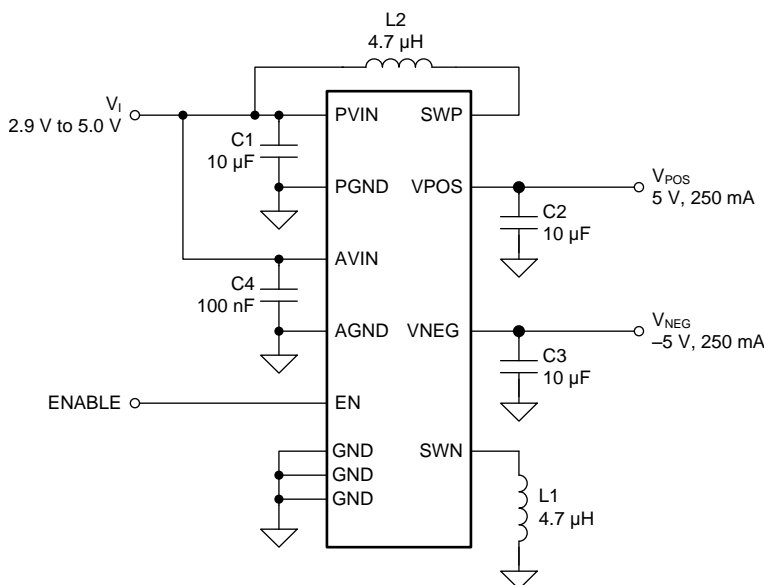

Figure 9. Typical Application Circuit
Figure 9 shows a typical application schematic suitable for supplying up to 250 mA at  $\pm 5$  V from e.g. a single-cell Li-Ion battery.
The design parameters for the application circuit in Figure 9 are listed in Table 1.
In order to maximize performance, the TPS65133 device has been optimized for use with a relatively narrow range of external components, and customers are recommended to use the application circuit shown in Figure 9 and the components listed in Table 2 and Table 3.
The performance shown in the following graphs was obtained using the circuit shown in Figure 9 and the external components listed in Table 2 and Table 3. (1)